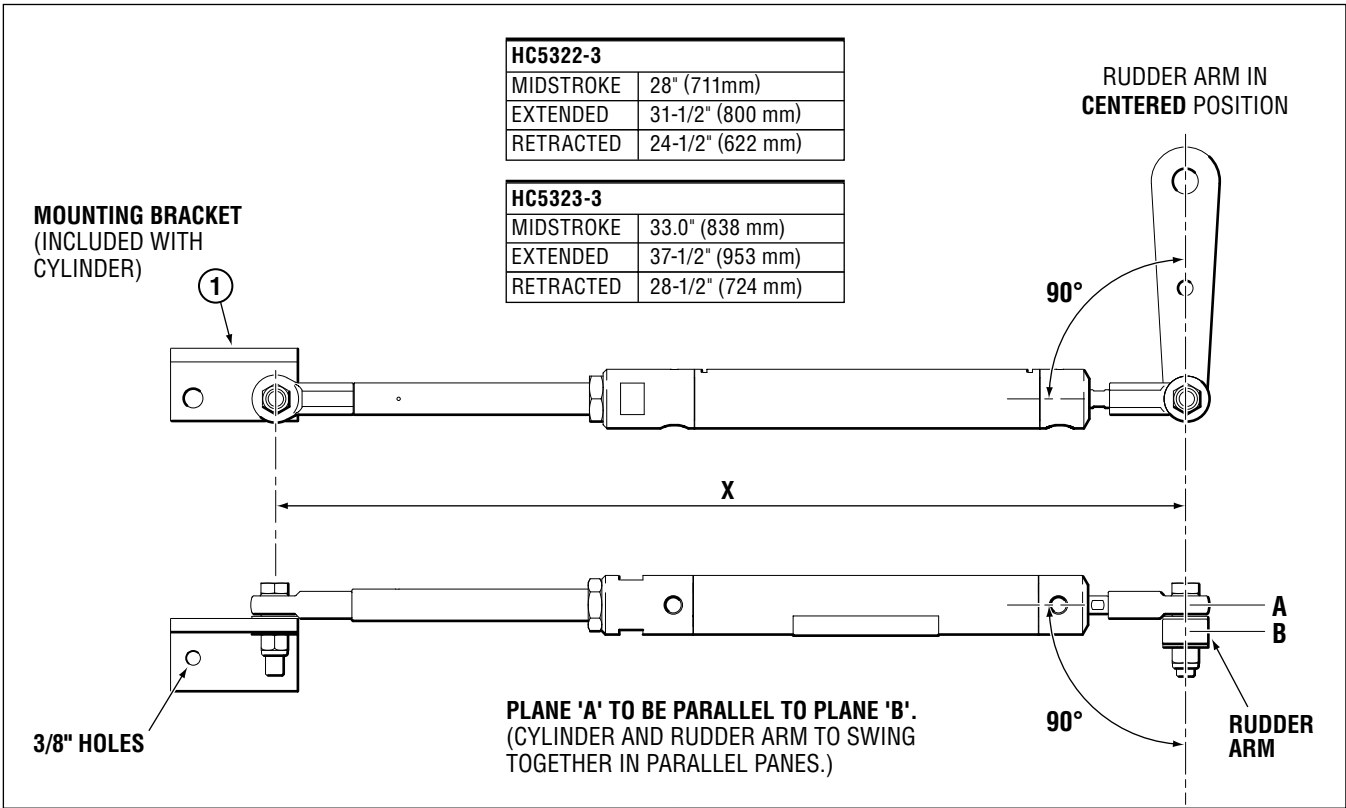

Figure 8. Correct Cylinder to Rudder Arm Mounting Orientation.
- 2** To achieve **MAXIMUM** performance, cylinder is to be mounted at a right angle (90°) to the rudder arm when in the center position (refer to Figure 8 below).
- 5 Place rudder in midstroke position and extend cylinder to mid stroke (see Figure 8).
- 6 Temporarily install the other rod end into the mounting bracket (item 1, Figure 8). Using the bracket as a template, mark off the positions of the two 3/8" holes on the mounting surface.
- 8 Mount the bracket (item 1, Figure 8) with through bolts, washers and nuts (not supplied by Teleflex). DO NOT USE LAG BOLTS.